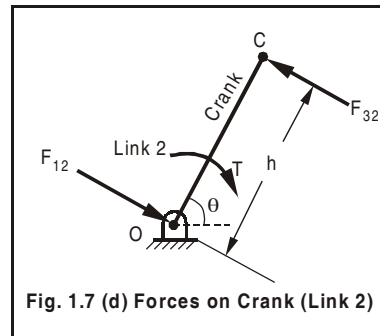

Fig. 1.7 (d) Forces on Crank (Link 2)
**Fig. 1.6** shows a slider-crank mechanism (4 bar mechanism). The piston is subjected to gas force  $F_G$ . This gas force is transmitted to crank shaft to deliver power. The free body diagrams of individual links are shown in **Fig. 1.7**.